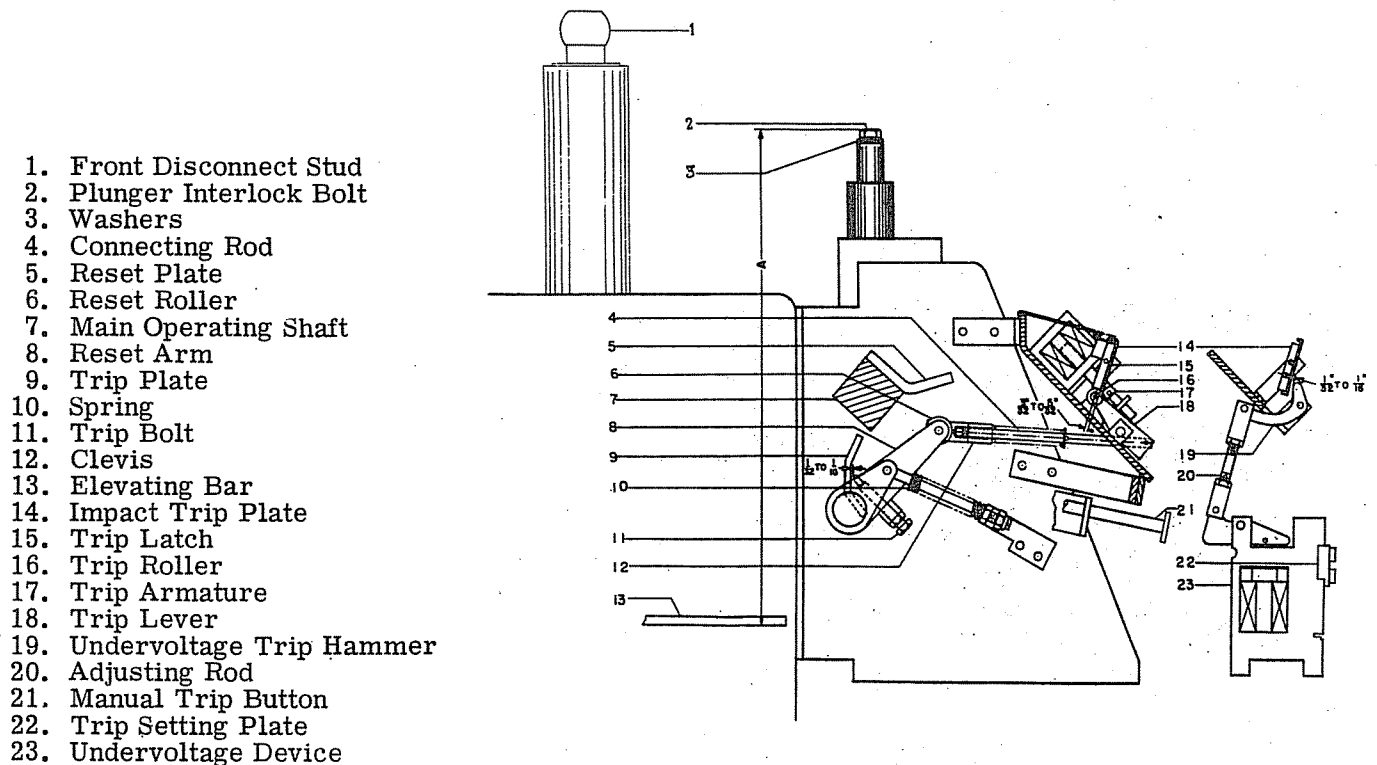

Figure 13 (0634D0336) Adjustments on Current Trip Device and Undervoltage Trip Device, Shown With The Breaker in The Closed Position
Figure 13 shows the necessary settings that are to be checked when these devices are fur-
Refer to Figure 13. With the breaker in the close position, the vertical distance "A" from the top of the interlock bolt (2) to the bottom of the elevating bar (13) should be  $16-19/32''$  to  $16-23/32''$ . To change this adjustment add or remove washers (3).